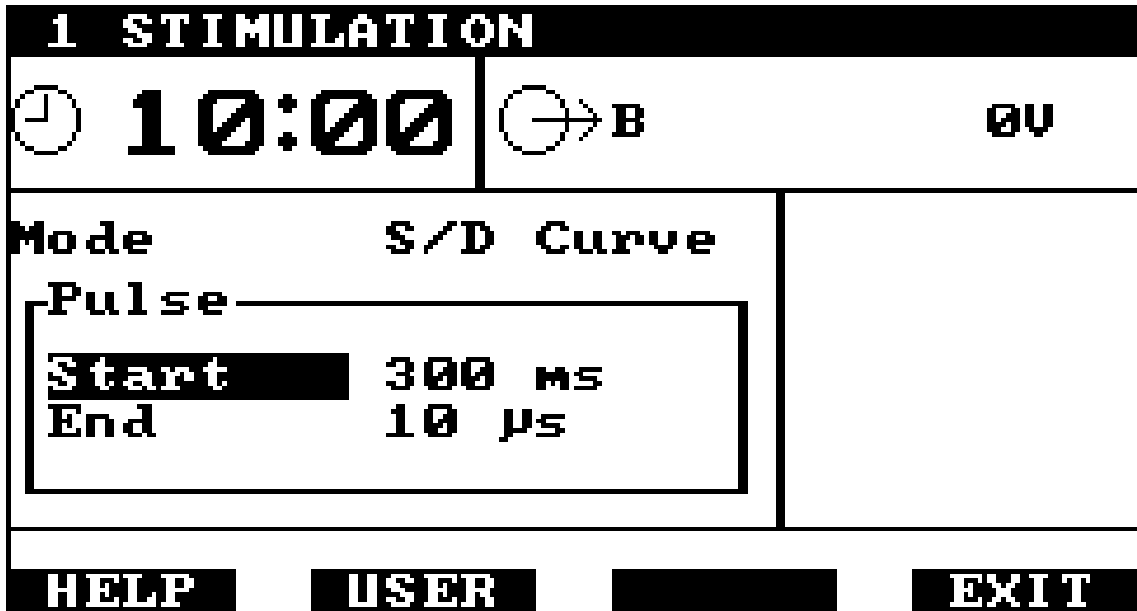

Figure 25 - S/D Curve set-up
20. The S/D Curve mode generates rectangular interrupted galvanic pulses for plotting strength duration curves. Figure 25 shows the set-up screen. A start and end pulse width are set in the same way as the pulse width is set in the interrupted galvanic mode. The system will not allow an end pulse width greater than or equal to the start width.